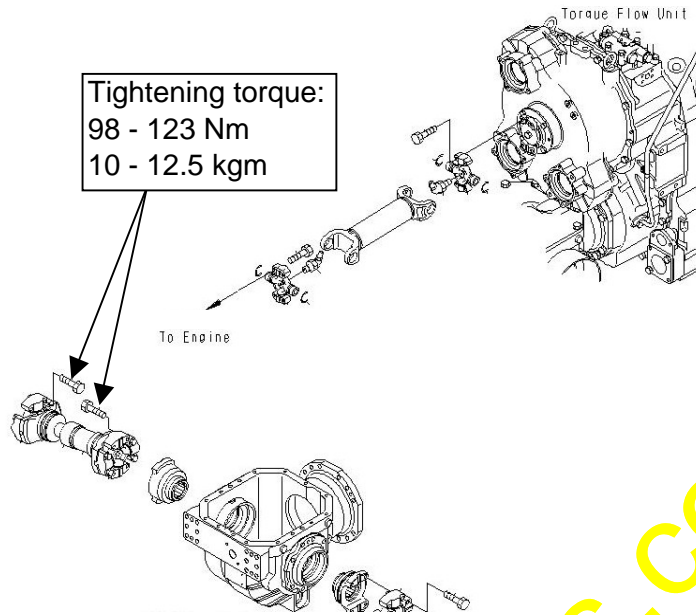

Fig. 11
6) Install the drive shaft. (Refer to Fig. 11.)